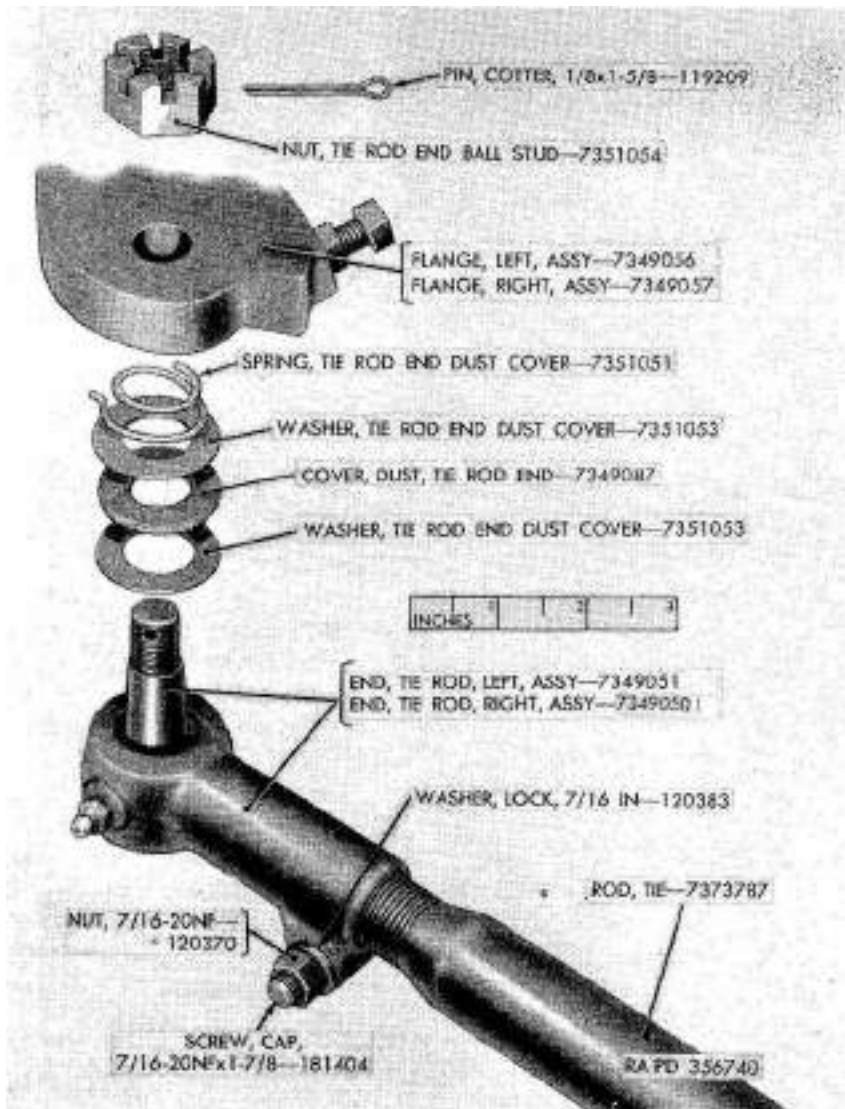

Figure 70 Tie rod end and related parts
l. Inspect Tie Rod Assembly (fig. 70).
c. Install Tie Rod Assembly (fig. 70).
- (1) If inspection (par. 781) reveals that tie rod or tie rod end assemblies requires replacement, assemble the ends with lubricating fittings toward the rear and the offset of tie rod at right side, to provide clearance for the differential with carrier assembly. Assemble tie rod to flange assemblies with an equal amount of exposed threads at each end. The distance between the centers of the tie rod end ball studs should be 48 $\frac{1}{16}$ inches.